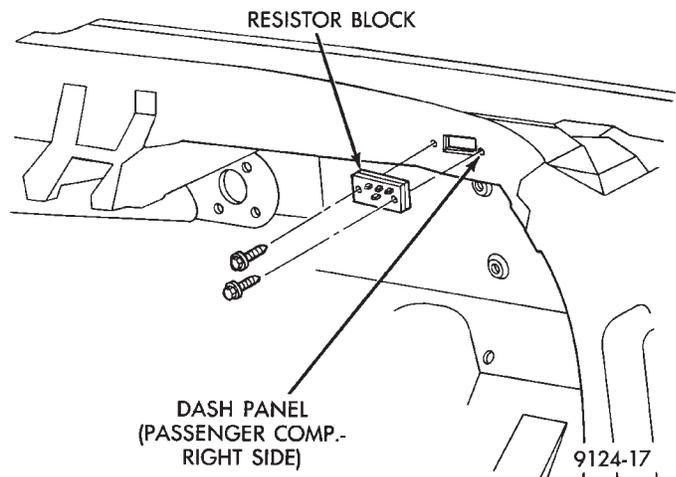

Fig. 3 Blower Resistor Block Location—AJ and AG Body
(1) Remove the instrument panel glove box and door assembly. Refer to Group 8E Instrument Panel.
(2) Remove security and lamp outage modules.
(3) Locate the blower resistor block (Fig. 3). It is above and to the front of the glove box opening on the dash panel. Remove the wire connector.
(4) Remove the two attaching screws at the resistor block.
(5) Carefully pull the resistor block straight out from the cowl plenum opening and remove the resistor block from the vehicle.